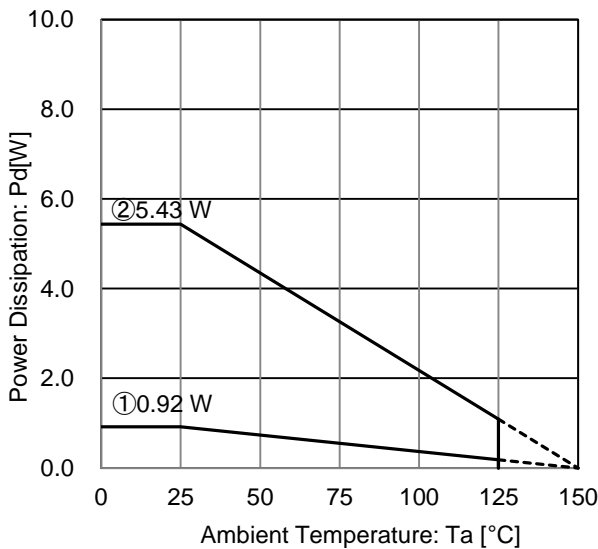

Figure 26. TO252-3 Package Data
At  $T_a=125^\circ\text{C}$  with Figure 26 ② condition, the calculation shows that ca 105mA of output current is possible at 10.2V potential difference across input and output.
At  $T_a=125^\circ\text{C}$  with Figure 26 ② condition, the calculation shows that ca 127mA of output current is possible at 8.5V potential difference across input and output.